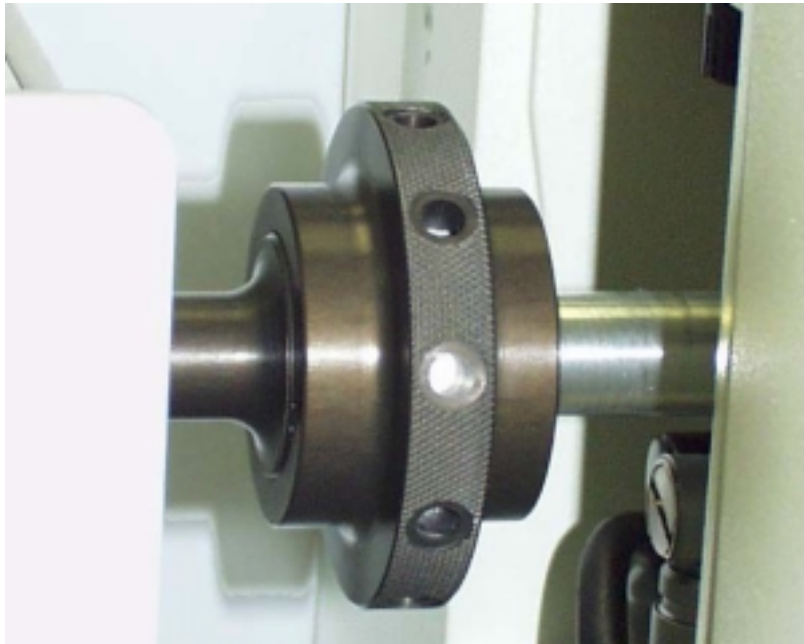

Figure 53 - Compression Nut Connecting AutoProbe to MS
5. Loosen the Compression Nut on the Inlet Assembly and the AutoProbe MS-Probe Interface Tube (Figure 53).